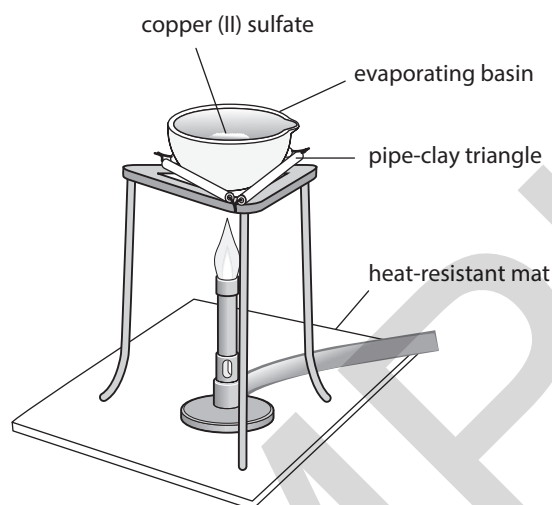

Figure 1.1
- 2 Place the pipe-clay triangle and the evaporating basin containing your crystals on the tripod as shown in Figure. 1.1.